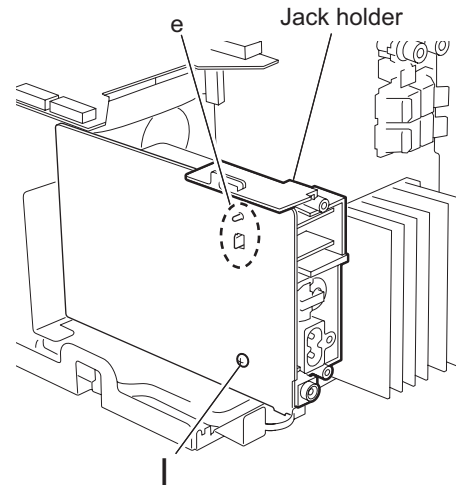

Fig.14
2.1.7 Remove the power transformer and power supply board (See Fig.14,15)